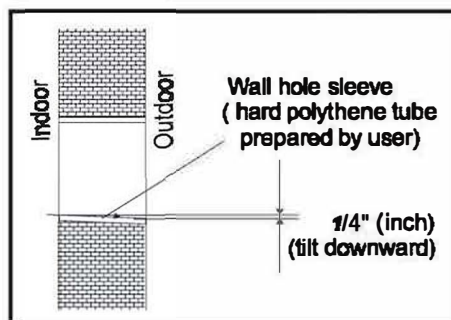

Fig. 406
- 3) Install a sleeve through the wall hole to keep the wall tidy and clean. (Fig. 406)